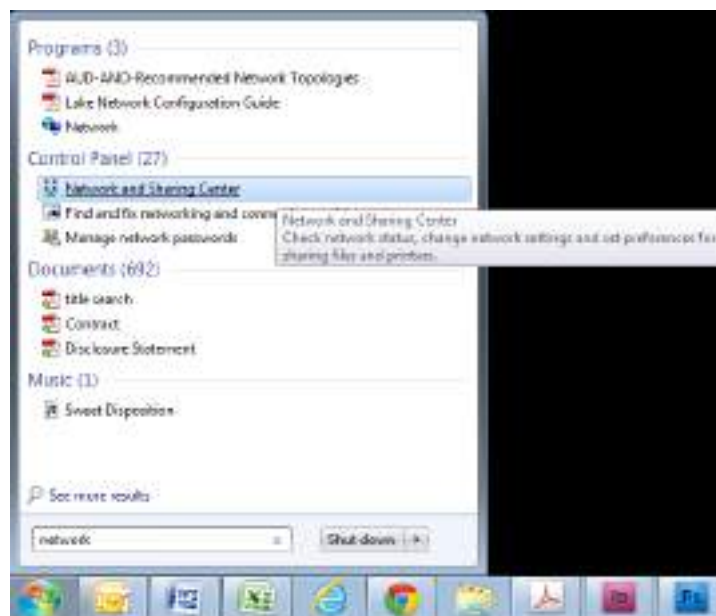

Figure 3-4: Opening Windows Network and Sharing Center
1. Tap the Windows Start icon, type "network" in the search bar then tap NETWORK AND SHARING CENTER from the options listed under the Control Panel heading as shown in Figure 3-4.
1. Navigate to the Windows Network and Sharing Center as shown in Figure 3-4.